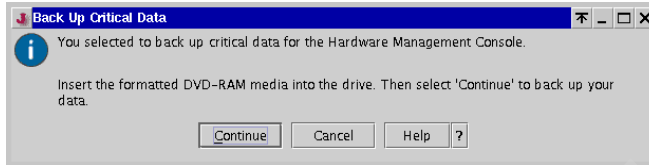

Figure 6-4 Backup Critical Console Data (insert DVD-RAM media)
3. An information window opens that prompts you to insert a formatted DVD-RAM media into the drive, as shown in Figure 6-4 on page 113. Insert the media and click **Continue**.